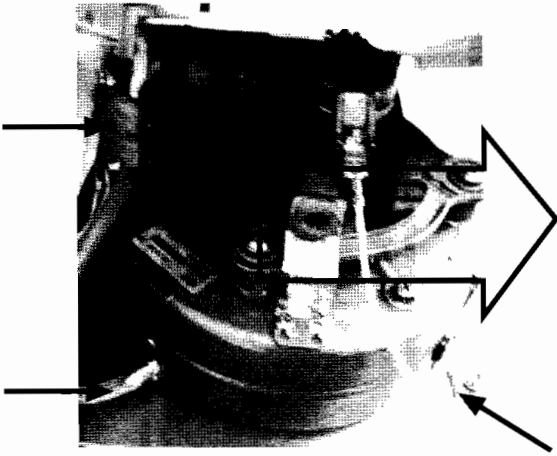

Figure 24
- 17.6 Disconnect the electrical leads and air pressure switch connection tube from the fan, remove the fan screws and withdraw fan from fan hood with its 56° bend. (Figure 24)
- ☐ Disconnect the electrical leads and air pressure switch connection tube from the fan, remove the fan screws and withdraw fan from fan hood with its 56° bend. (*Figure 24*)